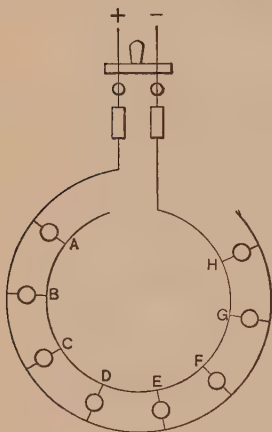

FIG. 72.
**Prob. 22.** Each lamp in Fig. 72 takes 1.5 amp. Voltage across the switch = 110 volts. Resistance of each section of wire between the lamps, and from the switch to the lamps, is 0.2 ohm.